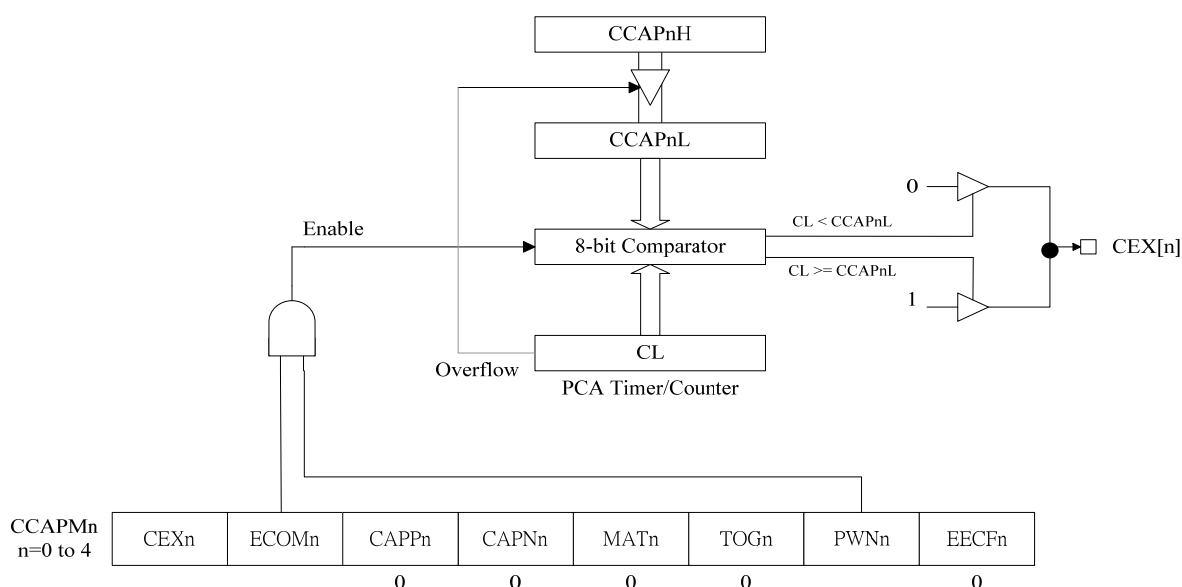

Figure 131: PCA Pulse Width Modulator Mode
The Pulse Width Modulator (PWM) mode is used to generate a continuous square-wave with an arbitrary duty cycle. As shown in Figure 131 below, it generates 8-bit PWM by comparing the low byte of the PCA timer (CL) with the low byte of the compare register (CCAPnL). When  $CL < CCAPnL$  the output of CEX[n] is low. When  $CL \geq CCAPnL$  the output CEX[n] is high. To activate this mode, the user must set the PWM and ECOM bits in the module's CCAPMn register.